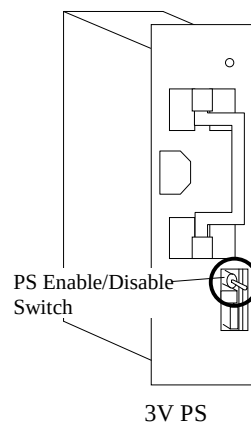

Fig. 3.10-6 Switch
- a. Turn the PS Enable/Disable Switch to (UP) **Enable**. Refer to Fig. 3.10-6.